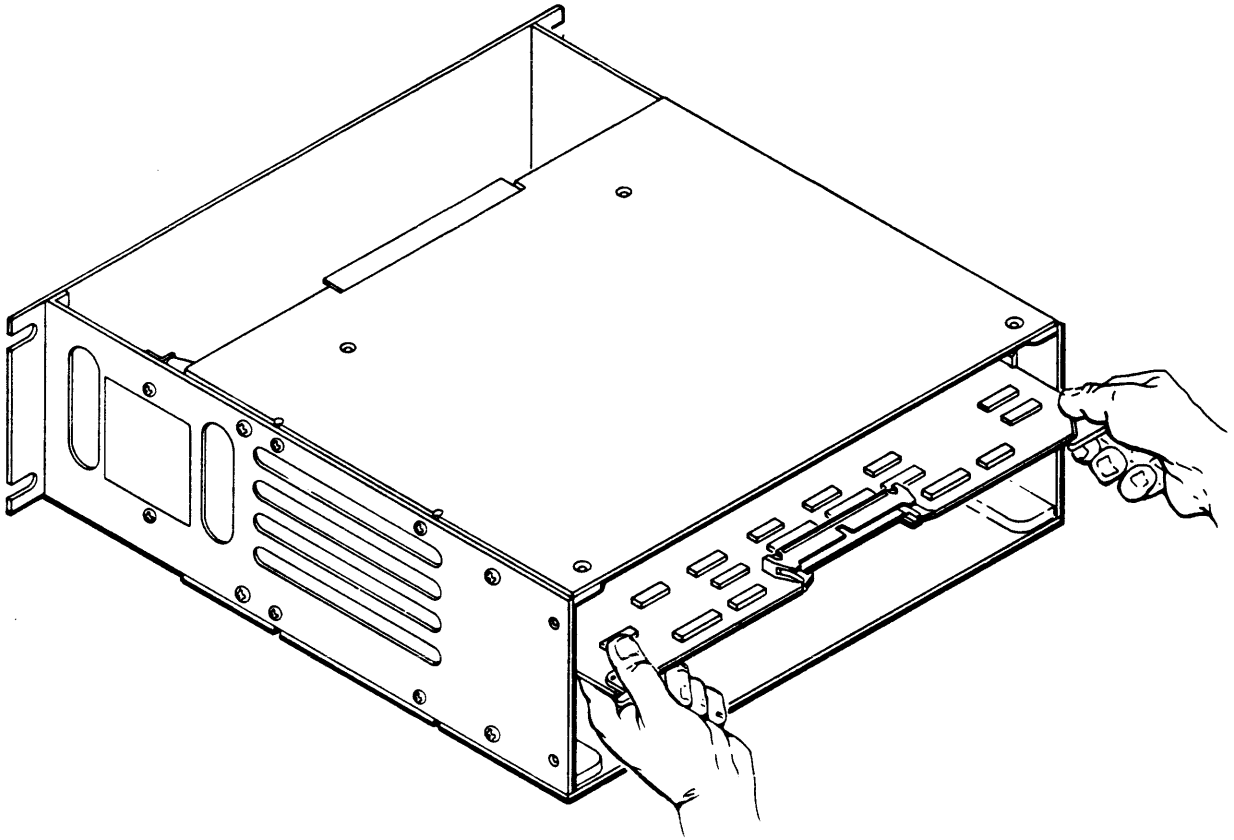

Figure 3-2. Installing MB01 Host Adapter in Multibus Backplane
To install the MB01 Host Adapter in the Multibus host system, see Figure 3-2 and use the general procedure described below. The actual procedure followed is dependent on the configuration of the host system.
4. Plug the MB01 Host Adapter into the Multibus backplane slot (see Figure 3-2). The component side of the MB01 Host Adapter must face in the same direction as the other modules in the Multibus backplane. Verify that the edge connectors on the PCBA are properly positioned in the throat of the backplane connector. Seat the PCBA by pressing on the extractor handles.